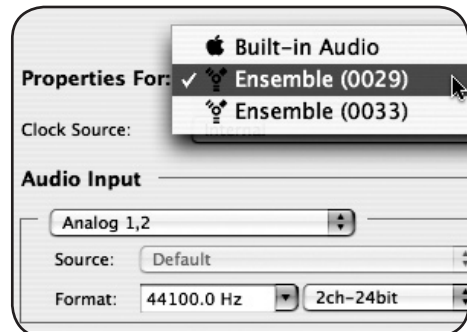

figure 18
b. Select each Ensemble in the AMS **Properties For** field, and set the sample rate to your preferred rate. It’s essential that all interfaces be set to the same rate before proceeding. (figure 18)